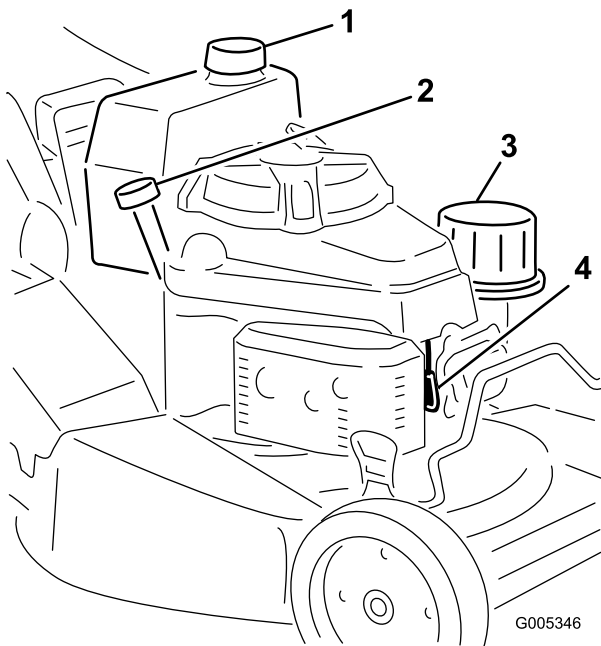

Figure 13
1. Clean around the fuel tank cap (Figure 13).
1. Connect the wire to the spark plug (Figure 13).